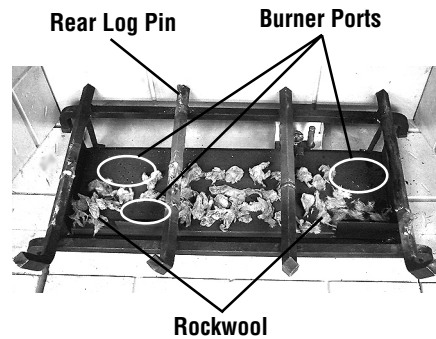

Figure 10
Step 1. Remove the rockwool from the packaging and tear into nickel size pieces. Spread the rockwool evenly on top of the burner. Do not use more than is necessary. The rockwool should not cover the burner ports, as shown in *Figure 10*.